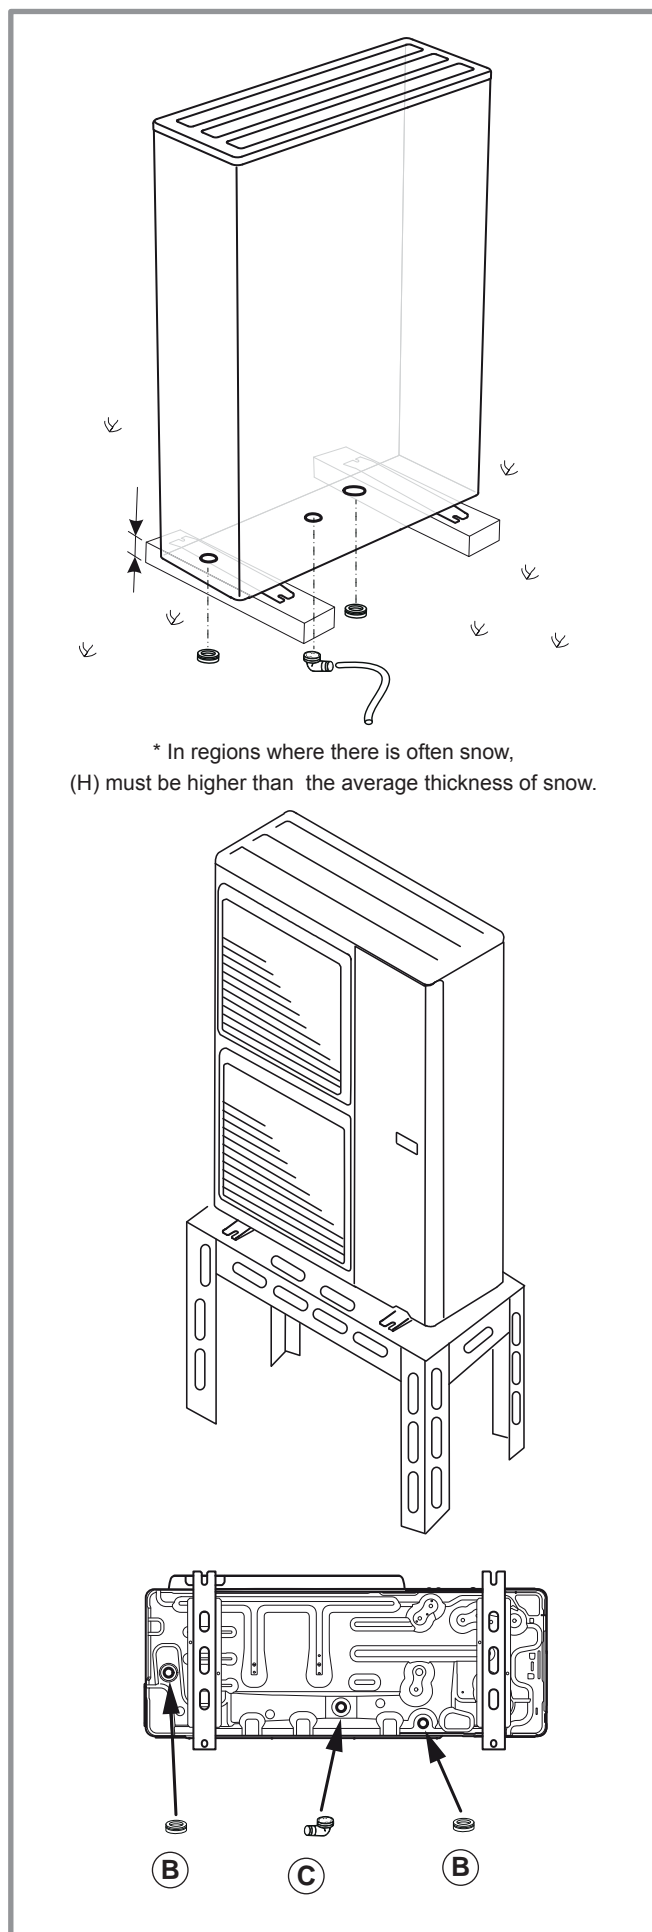

figure 15 - Fit the outdoor unit, evacuation of the condensates
- When operating water may escape from the outdoor unit. Do not install the appliance on a terrace, prefer a drained spot (bed of gravel or sand). If the installation is in an area where the temperature can be lower than 0°C for a long period, check that the presence of ice does not present any danger. It is also possible to connect a drain pipe to the outdoor unit (see figure 15, page 16).